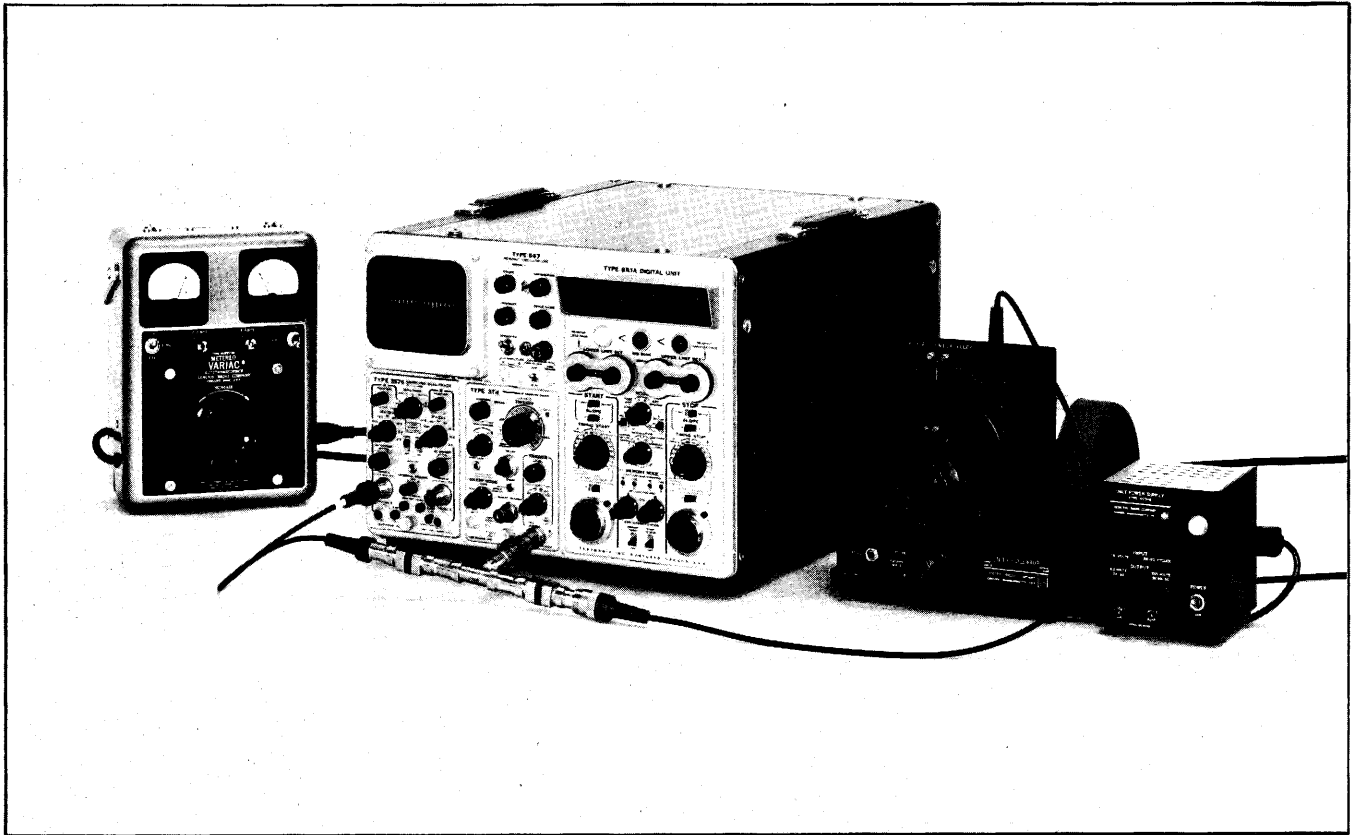

Fig. 5-40. Step 24 b. Test setup when using accurate 1000 mc sine wave to check 1 nsec/div sweep rate.
a. If your equipment uses sinewaves of less than 1000 mc, set it up similarly to Fig. 5-40 and obtain a stable display. Be sure to deliver the correct amount of signal to the Trigger EXT INPUT connector. 200 mv peak to peak is delivered to the EXT INPUT in the setup of Fig. 5-40.